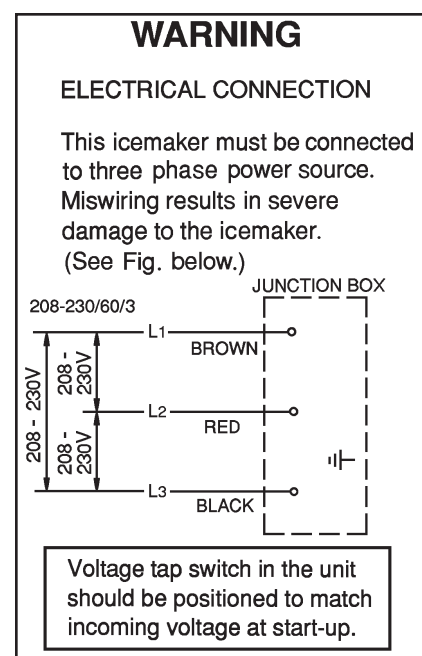

Fig. 4b
- On three phase models, the transformer's voltage tap switch must be positioned to match incoming voltage at startup. See Fig. 4b.